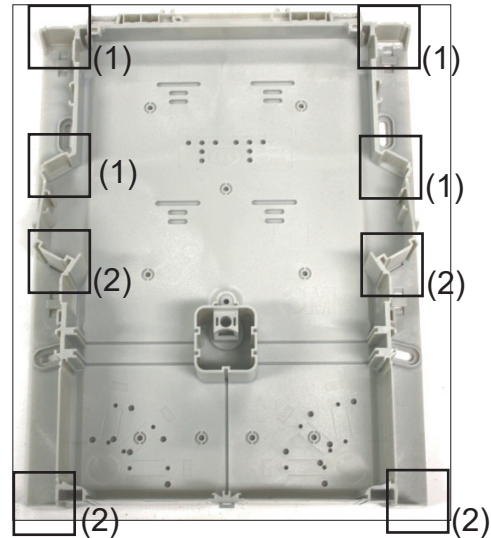

Fig.4
Two cables can be fed into each side from below (2), but only one cable into each side from above (1) due to the lower height of the upper sidewalls (Fig.4).